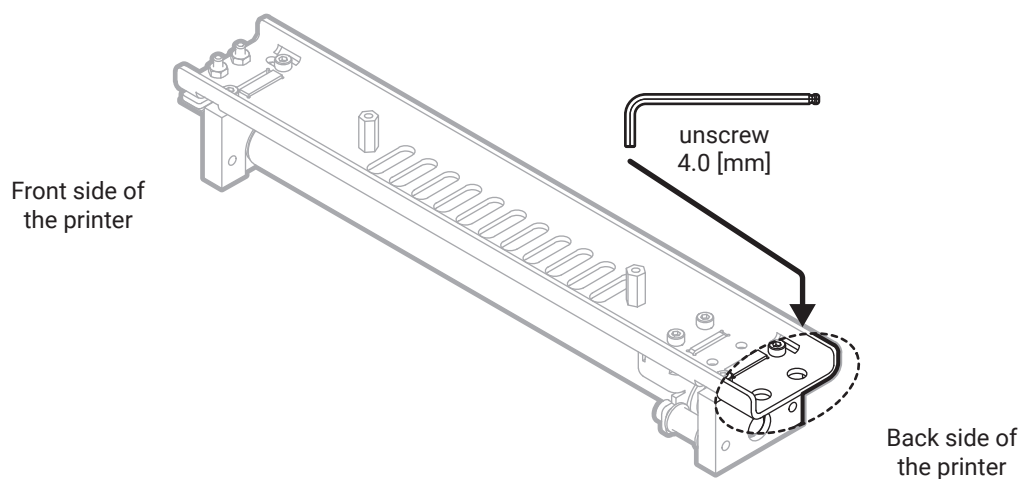

Fig. 5 Removing the Recoater.
12. Using a 4 mm allen key unscrew the two screws holding the Recoater to the bearing (fig. 5).